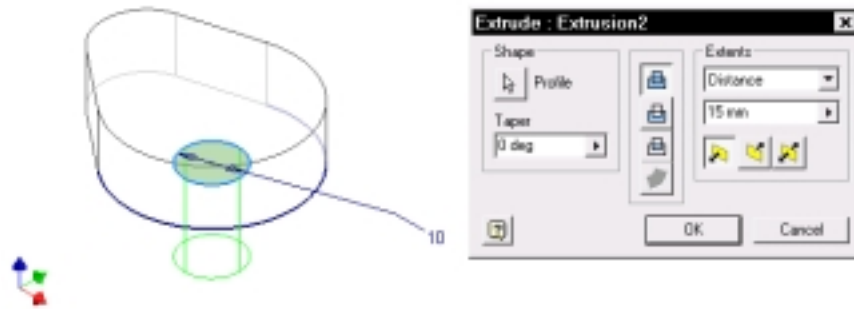

Figure 3-11
5. Extrude the sketch a distance of 15 mm to join the base solid part. (See Figure 3-11.)